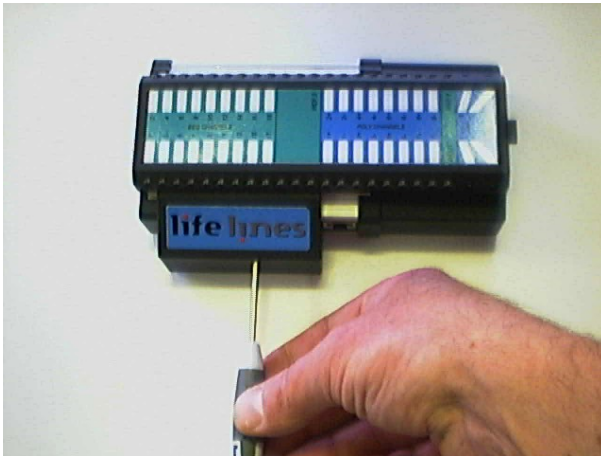

Figure 29 Clickon PCU Retaining screw location
- 5 Refit the rear Battery box/door, and screw it down with the special tool provided. See Figure 29.